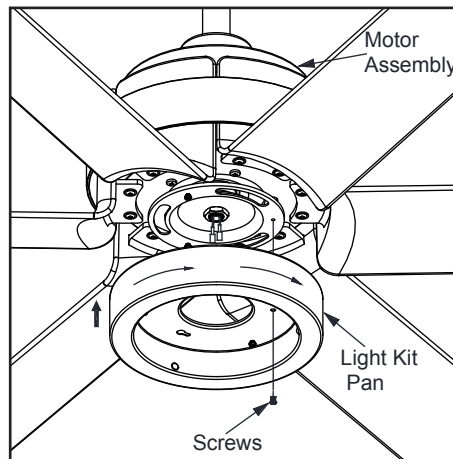

Figure 17
1. Loosen but do not remove two of three mounting screws from the fan motor assembly; Remove one mounting screw. (Figure 17)
2. Push the light kit pan up to the fan motor assembly so that the two loosened screw heads fit into the keyhole slots. Turn the light kit pan clockwise, tightened the screws. Re-install the screw that was removed in step 1 and tighten firmly. (Figure 17)
3. Remove one screw from the light kit pan and loosen, but do not remove the other two screws. Connect the wires from the light kit fitter assembly to the wires from the fan motor assembly by connecting the molded adaptor plugs together. Carefully tuck all wires and splices into the switch cap. (Figure 17)